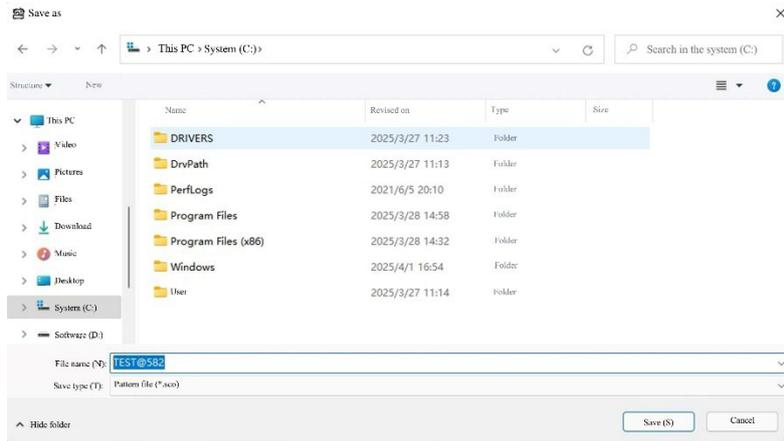

Fig. 5.7.1b File Saving Page
Operation: ① Click the "Output File" button to pop up the file save page. As shown in Fig. 5.7.1b below.